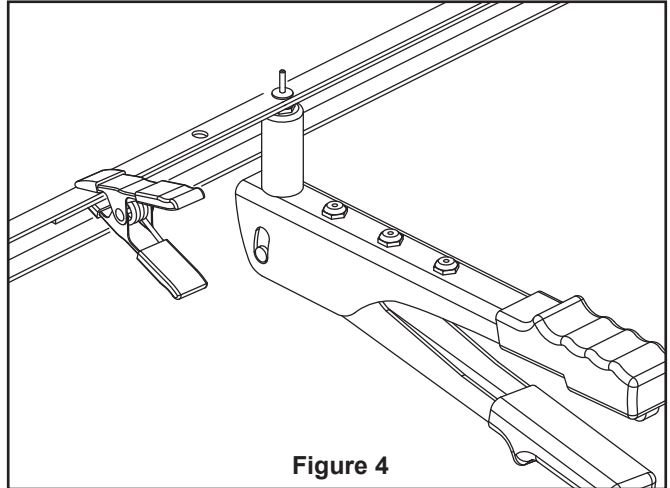

Figure 4
- 5. Mount retainer to outlet box with screws (provided with your outlet box). (Figure 4)